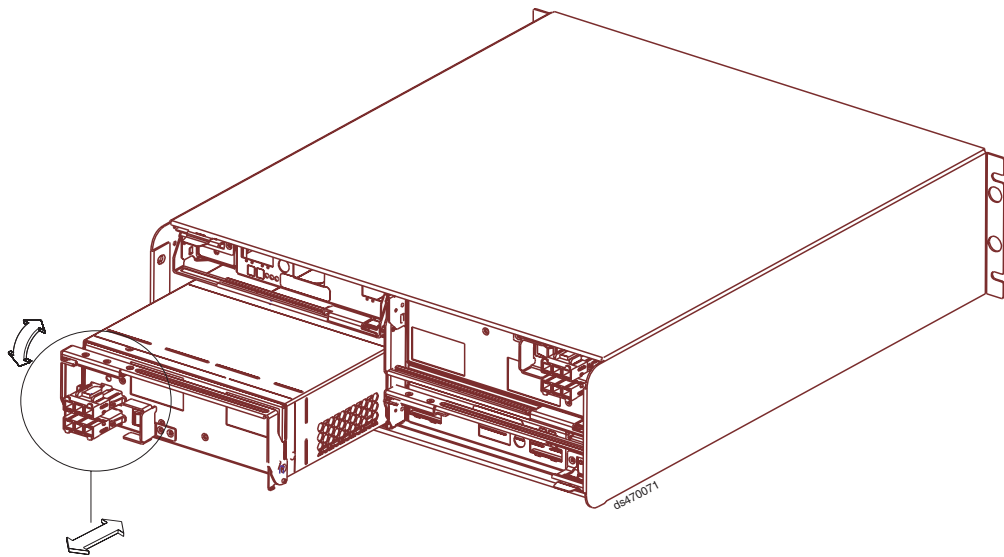

Figure 26. Replacing a DC power supply and fan unit
1. Slide one DC power supply and fan unit into the storage expansion enclosure. Be sure to replace the DC power supply and fan units so that the lever on each DC power supply and fan unit opens toward the interior of the storage expansion enclosure, as shown in Figure 26.